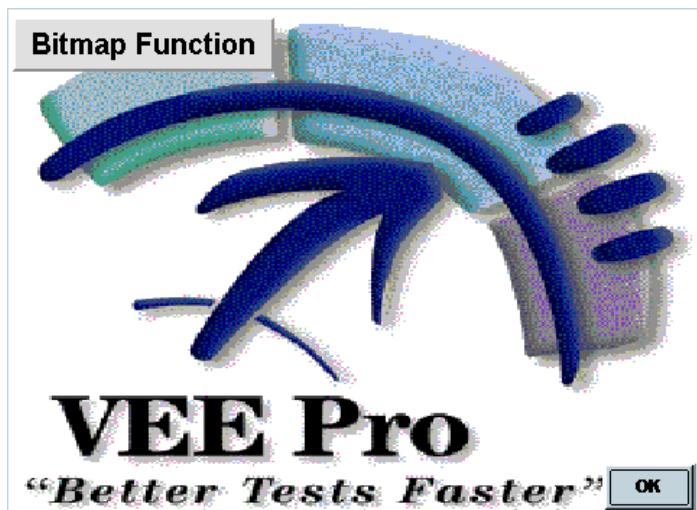

Figure 10-23. The Bitmap Function
8. Go to the Main window. Click Device ⇒ Call, then click Select Function in the object menu, and choose Bitmap. Run the program. The pop-up box should look like Figure 10-23.